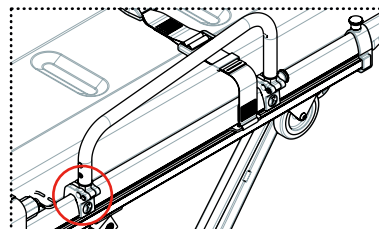

FIGURE 3
- ☐ The bolt of the rear support (see Fig. 3) that fixes the handrails on the profile is well tightened